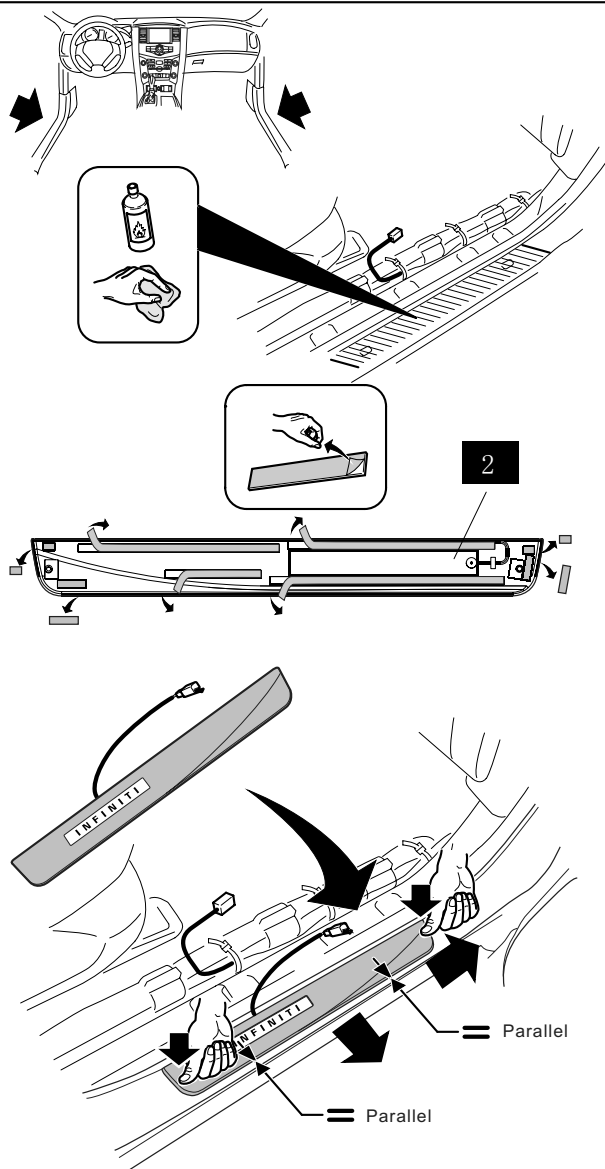

Fig.20
- 5) Pull the pull tab of the double-sided tape liner to fold outside of the kick plate or remove the short liner. Shown In Fig. 20.
- 6) Align pins on part to the hole on vehicle from out-side and front-side, being careful to keep the outside edge of the part parallel to the rocker panel. Shown in Fig. 20.